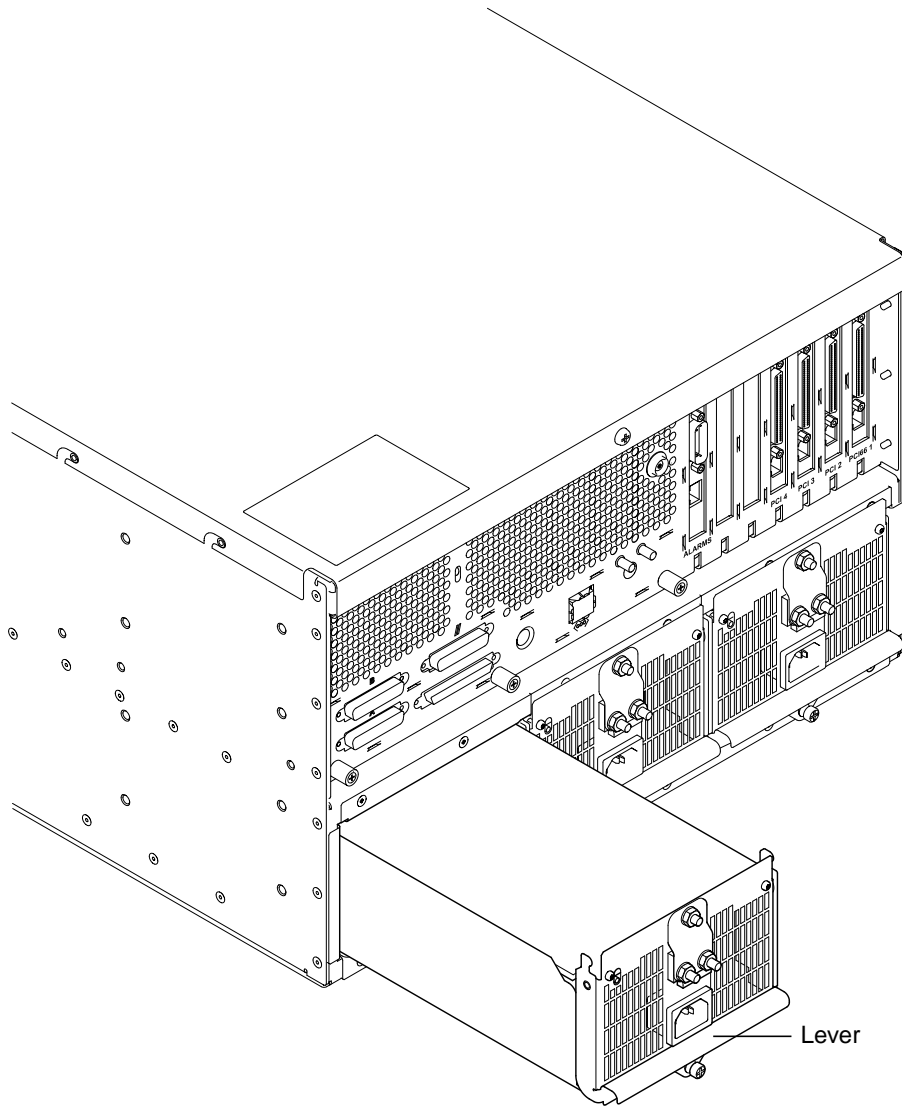

FIGURE 7-1 Power Supply
4. Release the knurled, Phillips screw securing the PSU locking/release lever (see FIGURE 7-1).